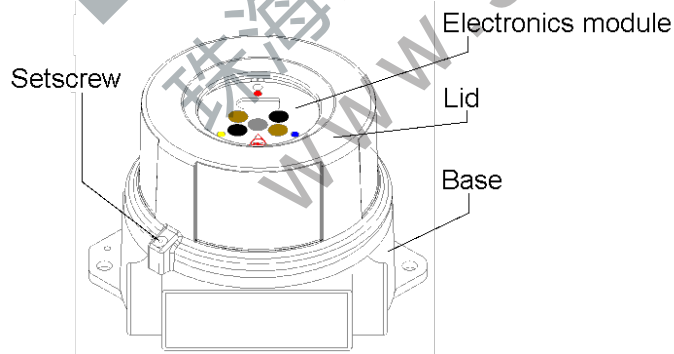

Figure 11. FS20X enclosure
1. Loosen the enclosure's setscrew (see Figure 11).